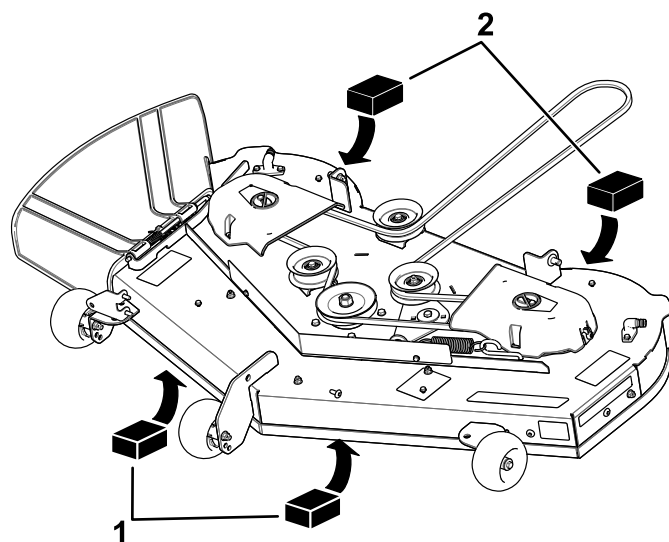

Figure 62
4. Place 2 blocks, each having a thickness of 6.6 cm (2-5/8 inches), under each side of the front edge of the deck but not under the anti-scalp roller brackets (Figure 62).
5. Place 2 blocks, each having a thickness of 7.3 cm (2-7/8 inches), under the rear edge of the cutting deck skirt, 1 on each side of the cutting deck (Figure 62).